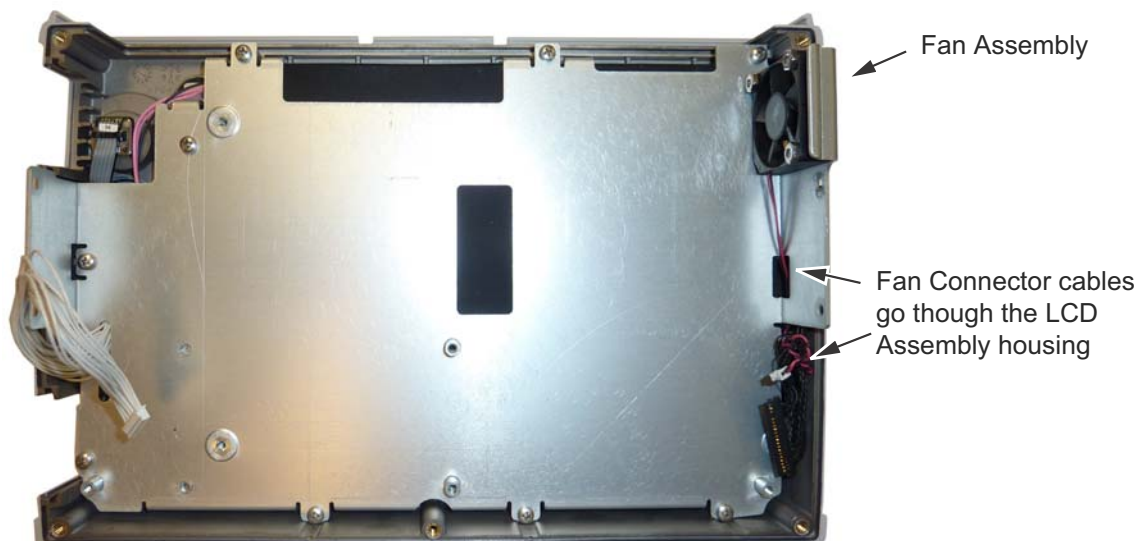

Figure 7-12. Front Panel Keypad Bezel
3. Remove the 3 screws and nuts holding the Fan Assembly to the LCD Assembly housing. Refer to \(Figure 7-12\).